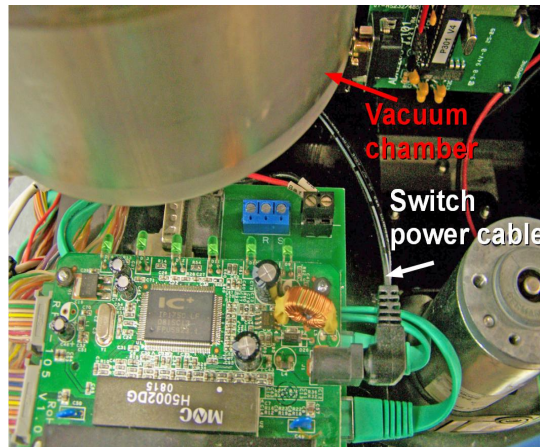

Figure 4: Route of Cable.
- Locate and unplug the current *Switch Power Cable* that is installed in the side of the *Ethernet Circuit Board*. Follow the *Cable* underneath the *Vacuum Chamber* and unplug the other end of the *Cable* from the *Wiring Harness*. **Note: You may need to cut the *Cable Tie* that is holding the *Cable* in place using *Flush Cutters (070200)* (Figure 4).**